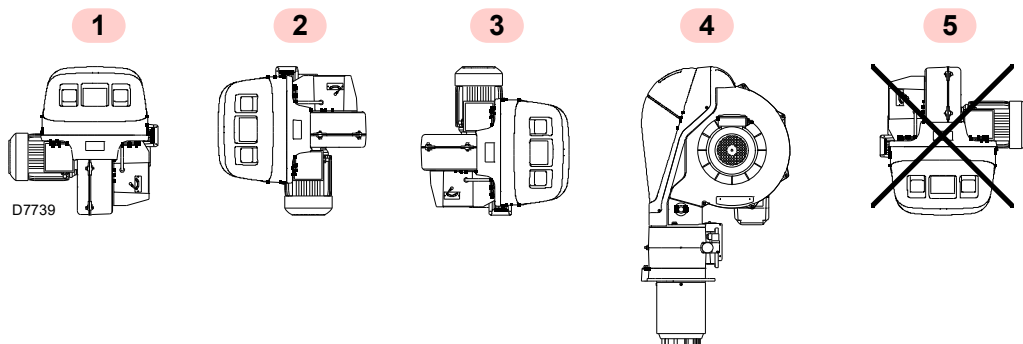

Fig. 14
- The burner is designed to operate only in positions **1**, **2**, **3** and **4** (Fig. 14).